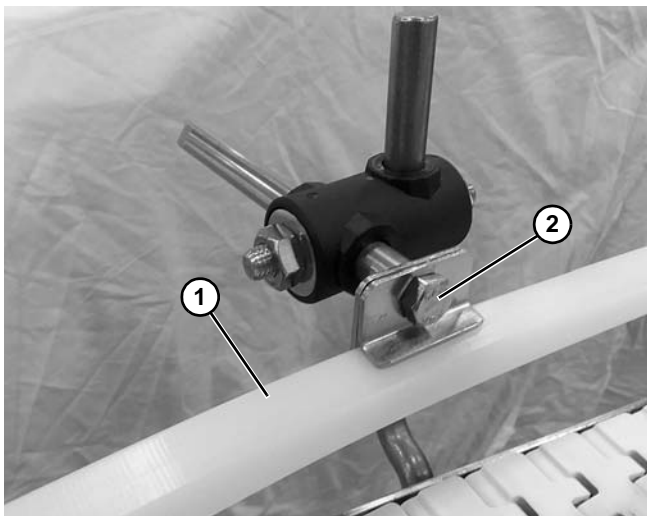

Figure 27
3. Install guide rail (**Figure 27, item 1**) into rail clamp. Tighten fastener to secure (**Figure 27, item 2**).